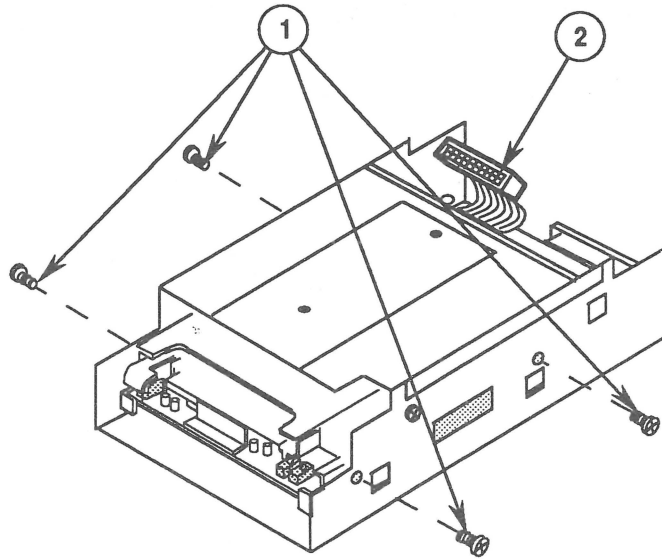

FIGURE 18
3. Replace the four screws (two screws on each side) (Figure 18, #1) on the outer metal shield.
4. Connect cable connector CN102 (Figure 18, #2) to the drive mechanism.